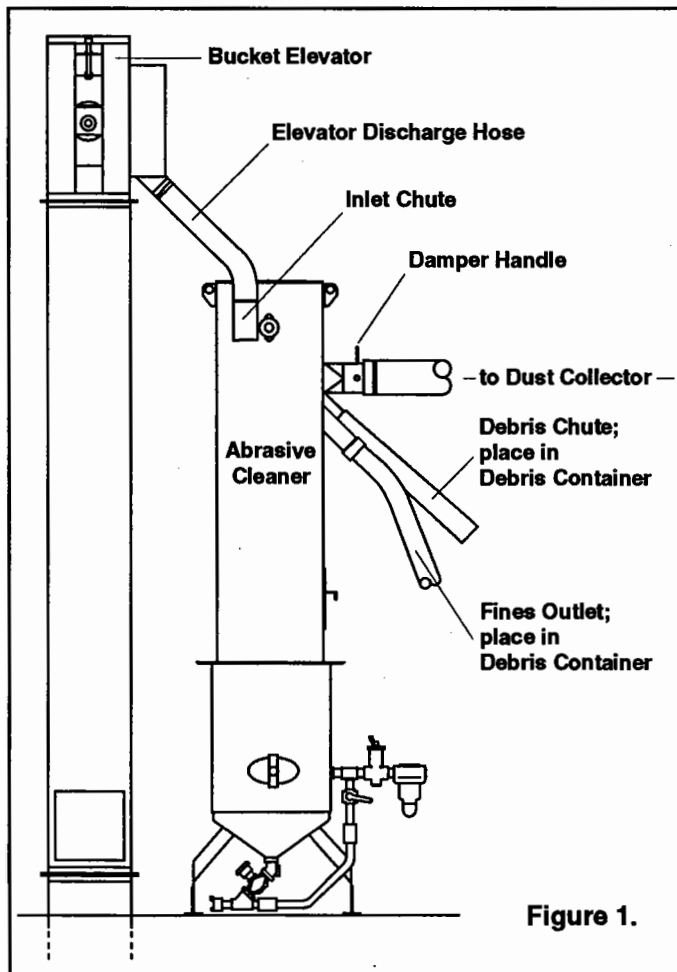

Figure 1.
1.2.2 Typical abrasive cleaner set-ups are shown in Figures 1 and 2. Figure 1 shows an abrasive cleaner mounted over a single blast machine. Figure 2 shows a cleaner over two machines using a two pot stand assembly.